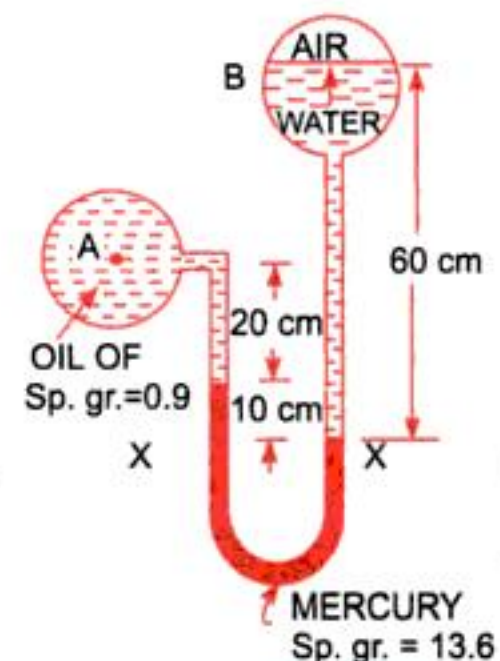

Fig. 2.20
**Problem 2.17** A differential manometer is connected at the two points A and B as shown in Fig. 2.20. At B air pressure is  $9.81 \text{ N/cm}^2$  (abs), find the absolute pressure at A.